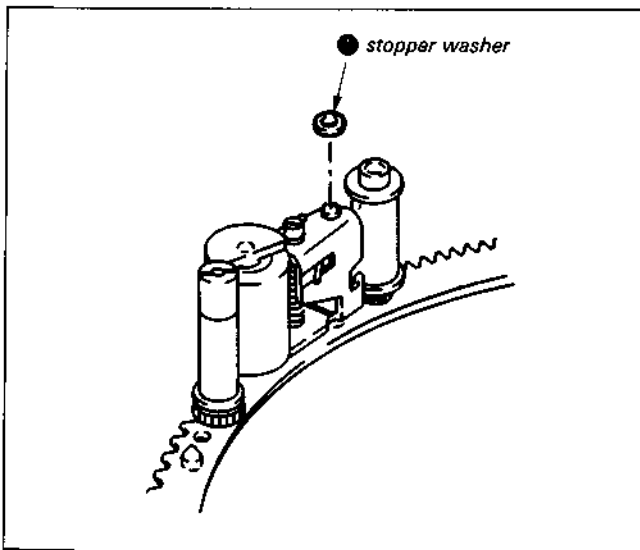

Fig. 7-14.
7-3-8. Pinch Roller Assembly (See Fig. 7-14. ~25.)
- 2) Remove stopper washer ●. (See Fig. 7-14.)